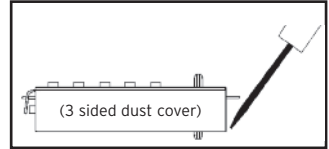

Figure 5-1
**E-1** Place a small screwdriver on the edge of the 3-sided dust cover and push down on the screwdriver (See Figure 5-1). The cover should pop loose. Once it does, pull the cover off of the combination chamber.